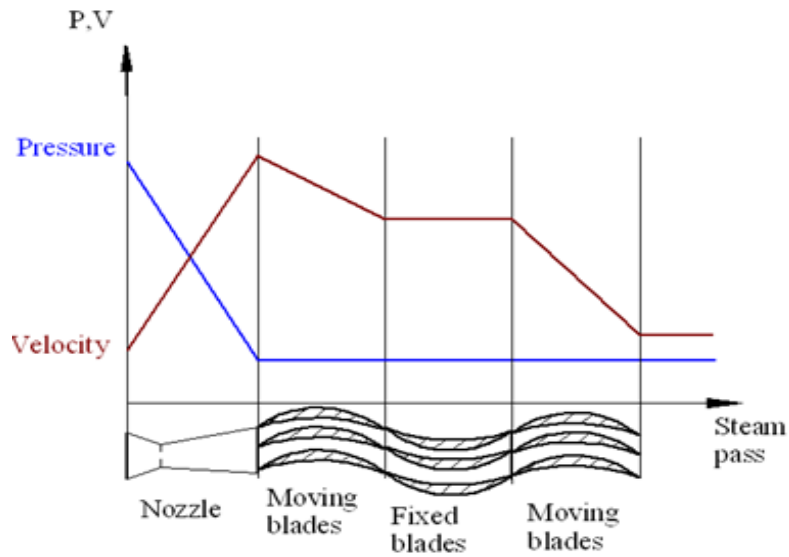

Fig. 3.3 Two stage velocity compounded impulse turbine.
**Answer:** A simple velocity compounded impulse turbine is shown in figure 3.3. It consists of a set of nozzles and a rotating wheel fitted with two or more rows of moving blades. One row of fixed blades fitted between the rows of moving blades. The function of the fixed blade is to direct the steam coming from the first row of moving blades to the next row of moving blades without appreciable change in velocity.